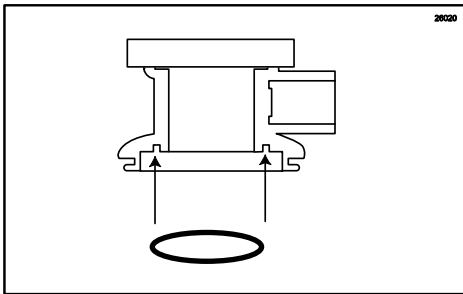

Figure 94
- Place the larger o-ring into the groove on the underside of the Injector Head. (See Figure 94.)